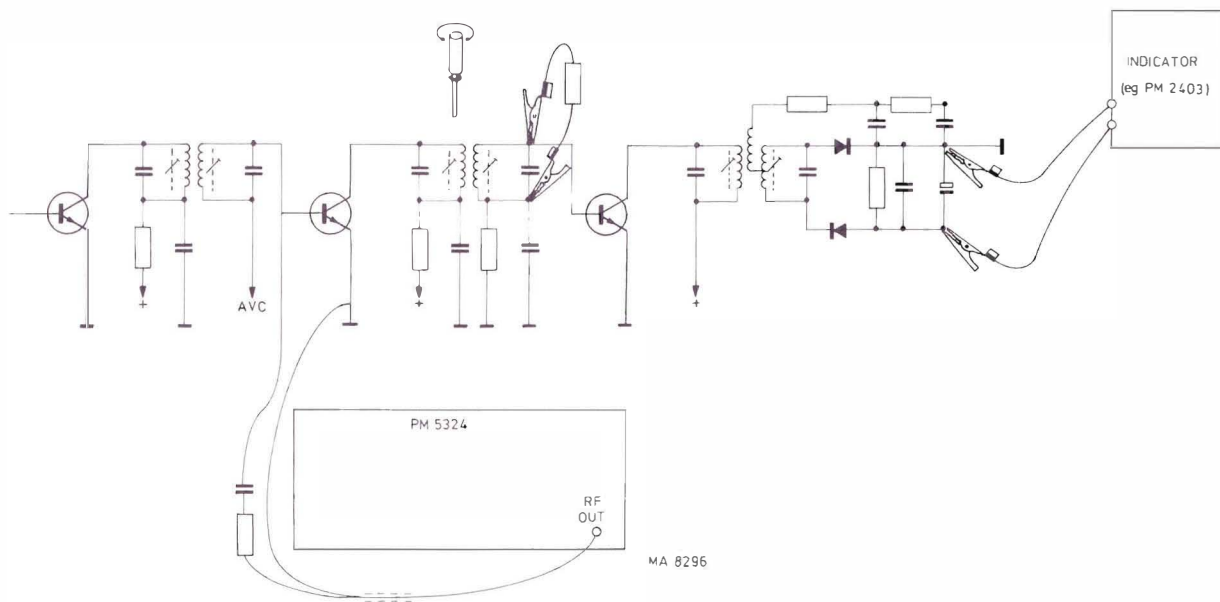

Fig. 14. Alternately damping and adjusting the primary and secondary circuits
- Connect the indicator according to Fig. 14
- Adjust the core of the primary circuit (Fig. 14) of the ratio detector to maximum deflection of the indicator
The circuits of a band-pass filter which are not adjusted should be terminated with a resistor of approx. 10 k Ω during the adjustment of a circuit of the band-pass filter (Fig. 14).